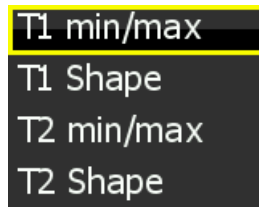

Figure 32: Tank options.
When selecting the Tank option a window illustrated in Figure 32 opens. *T2* options are shown only when the second fuel level channel is also active.
1. Select the *Tank* option from the main menu. This offers further selection according to the Figure 32.